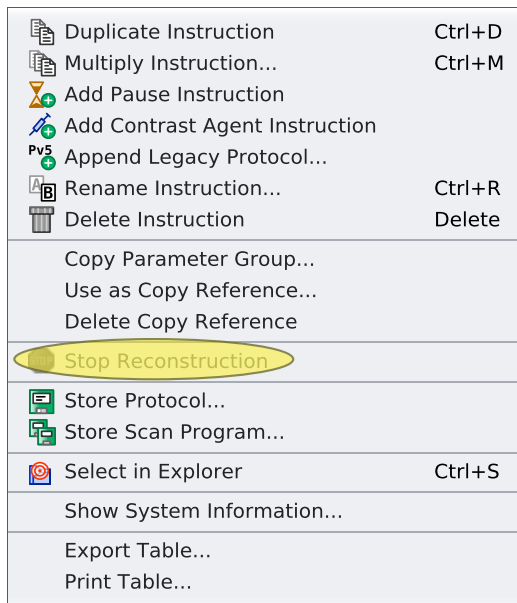

Figure 1.28: Context Menu Examination Card
2. Open the context menu (see Figure 1.28 [▶ 51]) and invoke **Stop Reconstruction**.